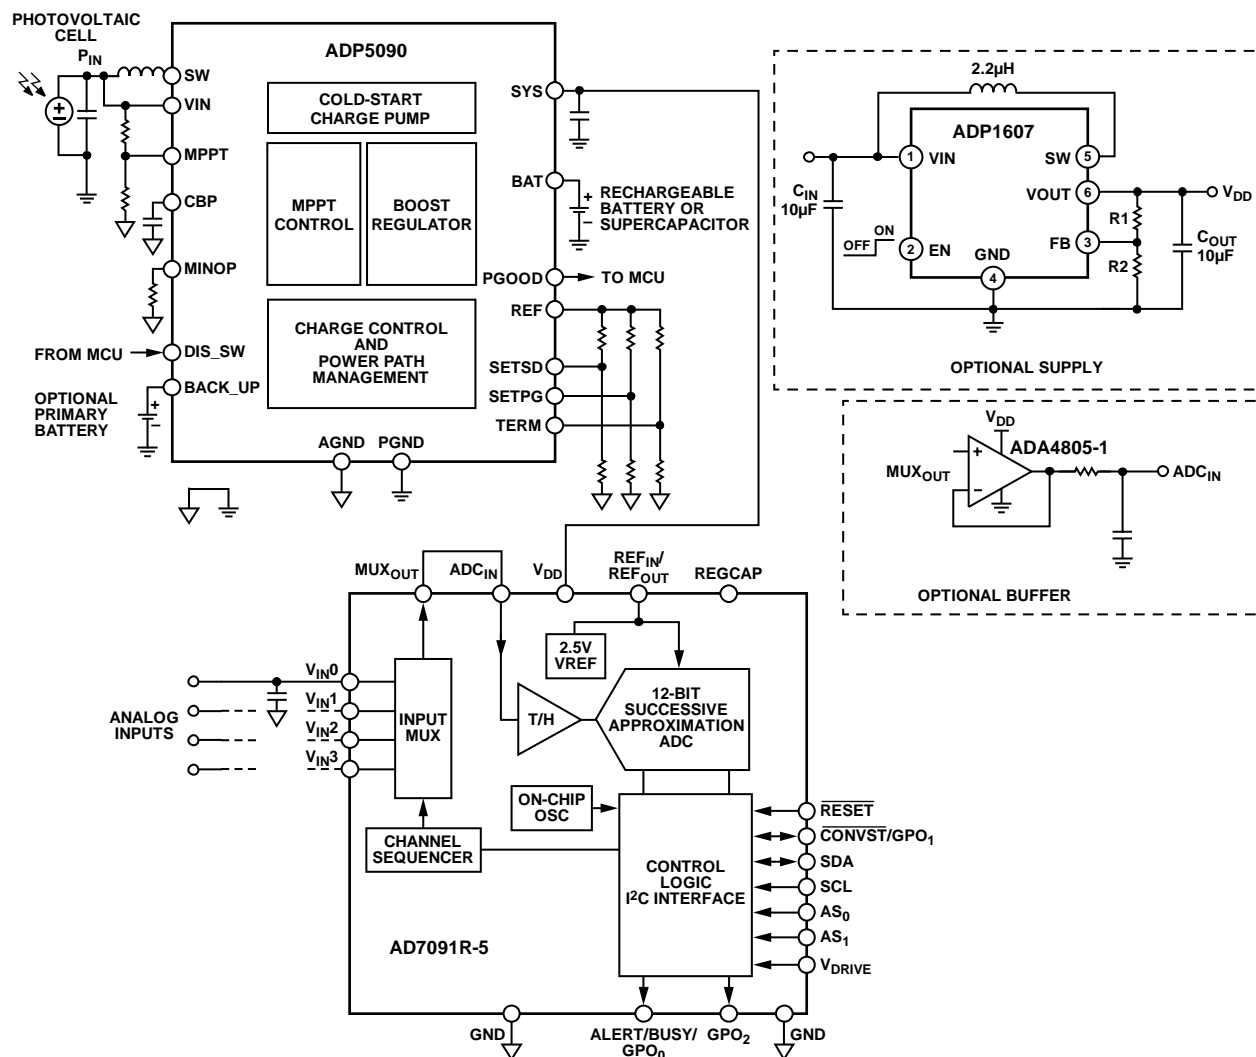

Figure 1. Low Power Data Acquisition System with Energy Harvesting Circuit (Simplified Schematic: All Connections and Decoupling Not Shown)
The circuit shown in Figure 1 is an ultralow power, multichannel data acquisition system that can be powered by a photovoltaic (PV) cell or thermoelectric generator (TEG). The circuit uses the industry's lowest power, multichannel, 12-bit successive approximation analog-to-digital converter (SAR ADC), the AD7091R-5, along with an efficient energy harvesting circuit based on the ADP5090 boost regulator. The ADC has a typical power consumption of 100 μ W on a single 3 V supply when sampling at 22 kSPS. Typical signal-to-noise ratio (SNR) is 68 dB for a 1 kHz input signal.
The SYS voltage output of the ADP5090 supplies the entire circuit as shown in Figure 1.